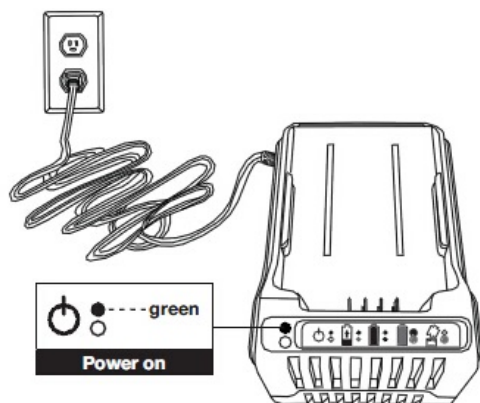

Fig. 7
- Insert the 120 volt plug of the charger into the wall receptacle. The top green light will illuminate and stay green. See figure 7.